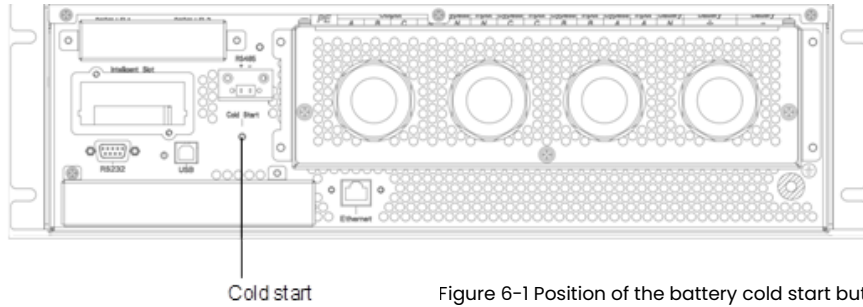

Figure 6-1 Position of the battery cold start button
2. Press and hold the red button of battery, as shown in Figure 6-1, battery supply power to UPS